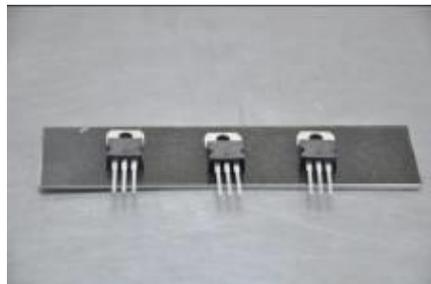

Fig 5
6. After the TNC surface reach 150C, curing can be finished in 6 minutes, however, due to different heatsink size the TNC will take different period to be heated upto 150C, so the curing conditions would be slightly different according to actual products and heat oven conditions. During curing process, the assembly should be on a horizontal and flat surface and IC parts should be up towards (Fig. 5). And the Assembly could not be slanting during the curing process and before being cooled down.